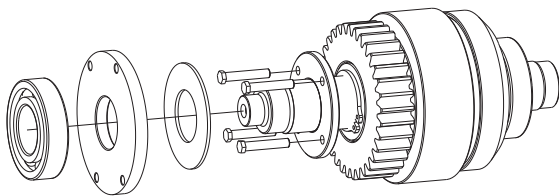

Figure 5 – Output Shaft Component's Removal
7. Using a bearing puller, remove the rear bearing (1) by grabbing the drag brake plate (2) and removing both pieces. The bronze disk (3) can be removed. *See Figure 5*
8. Insert four  $\frac{1}{4}$  – 20 capscrews into the drag brake rotor (4) until they just touch the back of the bell gear. Using an "X" pattern screw the capscrews in at  $\frac{1}{4}$  turn intervals until the brake rotor is free of the output shaft (10). *See Figure 5*